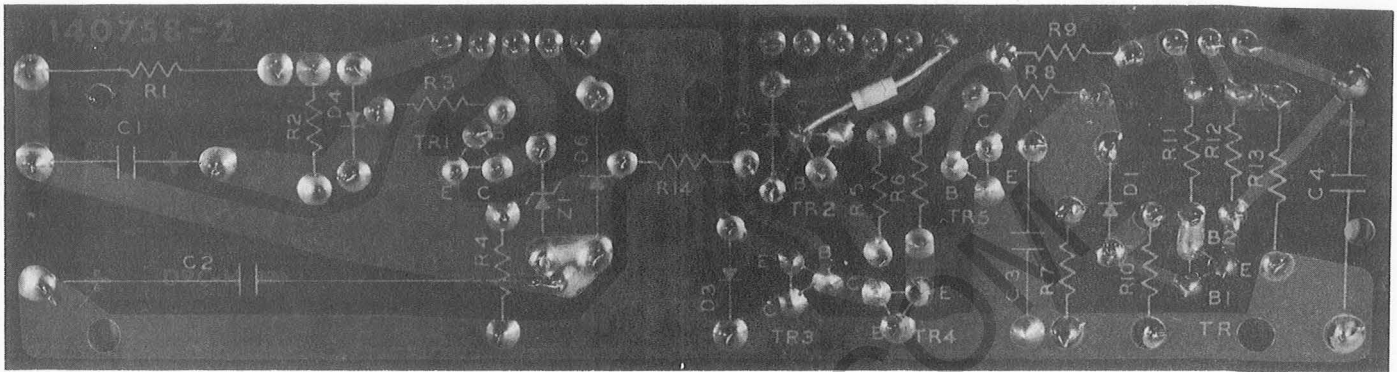

Figure 4
4. Connect and solder Diode, Part No. 76700-23, from the Emitter to the Collector of Transistor TR-2 (Cathode to Collector) as shown in Figure 4.